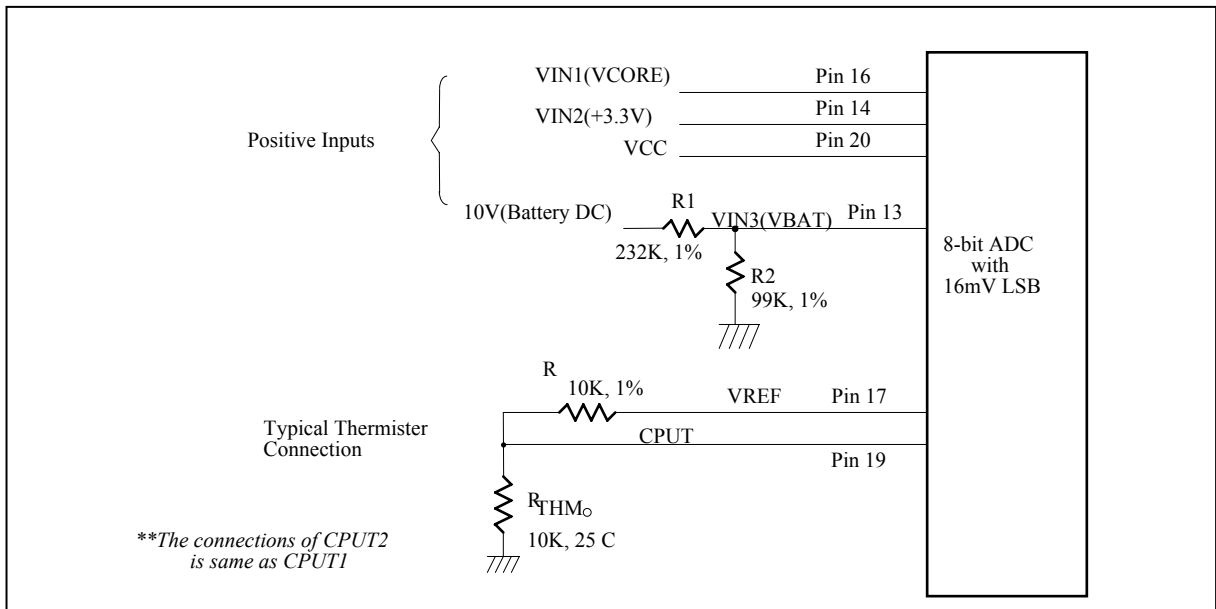

Figure. 10.
The maximum input voltage of the analog pin is 4.096V because the 8-bit ADC has a 16mv LSB. Really, the application of the PC monitoring would most often be connected to power suppliers. The CPU V-core voltage and +3.3V voltage can directly connected to these analog inputs. The 5VSB and battery inputs should be reduced a factor with external resistors so as to obtain the input range. As Figure 10 shows.
The W83L784R/G can connect three thermistors to measure three different environment temperature. The specification of thermistor should be considered to (1)  $\beta$  value is 3435K, (2) resistor value is 10K ohms at 25°C. In the Figure 10, the themistor is connected by a serial resistor with 10K Ohms, and then connect to VREF (pin 17).